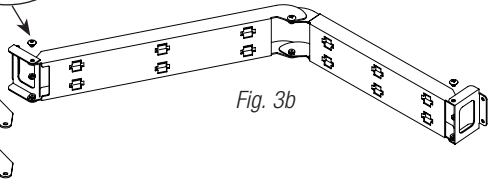

Fig. 3b
3. Attach the hinge brackets to the ends of arms using bolts and nuts positioning them as shown on (Fig. 3b, pg. 4).